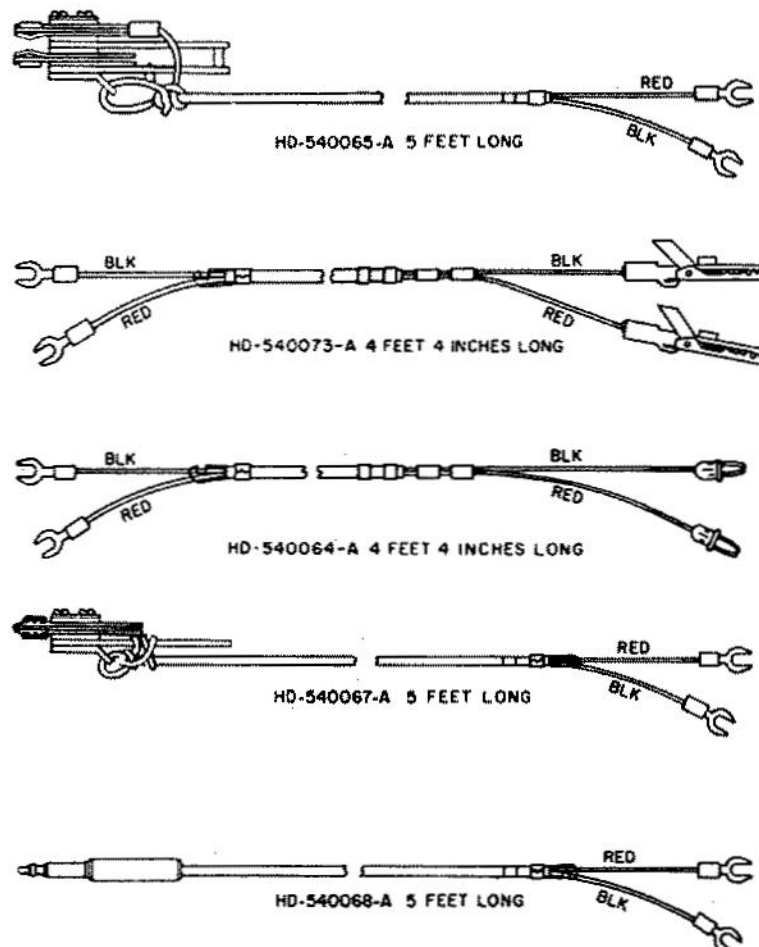

Figure 5. Miscellaneous Test Cords.
3.02 The outside plant handset (L-9078-A1) is equipped with a cord (HD-540073-A) equipped with insulation-piercing alligator clips (Figure 5). Cords referenced in this figure can also be used in place of the HD-570008-A or HD-570073-A cords and would be a dedicated handset using the central office cord.